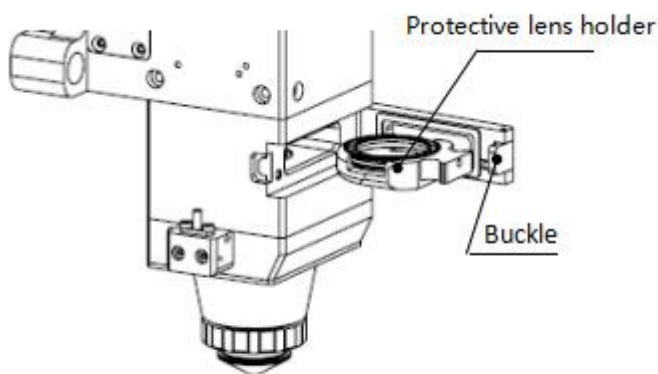

Figure 6.1 — Take out protective lens
It's necessary to maintain lenses regularly because of the characteristic of laser cutting process. Once a weak cleaning the protective lenses is recommended. The collimating lenses and focusing lenses are recommended to clean once every 2~3 months. In order to facilitate the maintenance of the protective lens, the protective lens holder adopts a drawer type structure. (Figure 6.1)
- As shown in Figure 6.1, open the buckle, open the cover of protective lens, pinch the two sides of the drawer-type lens holder and pull out the base of protective lens;